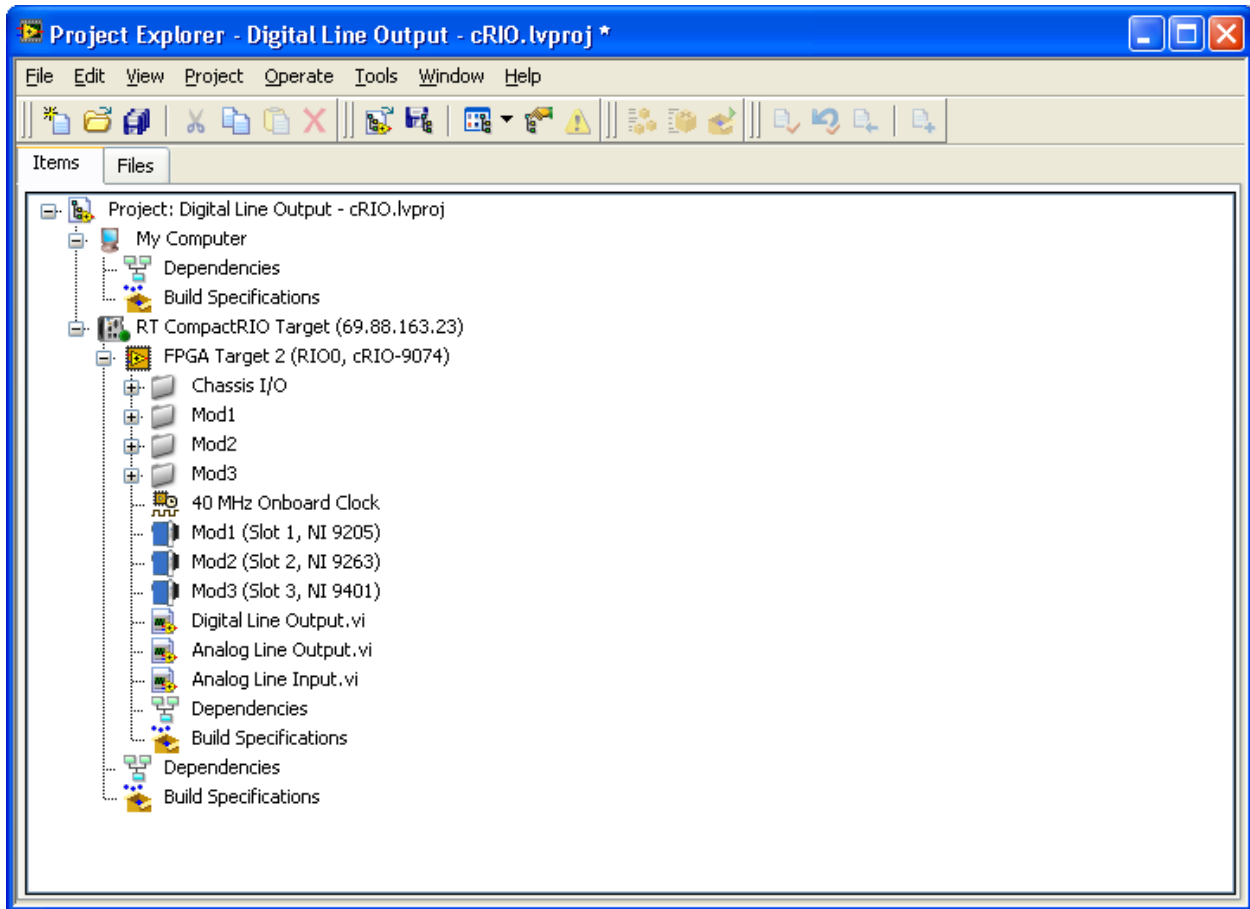

Figure 5 - Project Explorer
2. Under Open of the Getting Started window (Figure 5), browse for C:\CDA 4170\Digital Line Output - cRIO.lvproj.
4. Expand RT CompactRIO Target, and expand FPGA Target. You will see the screen show in Figure 5.